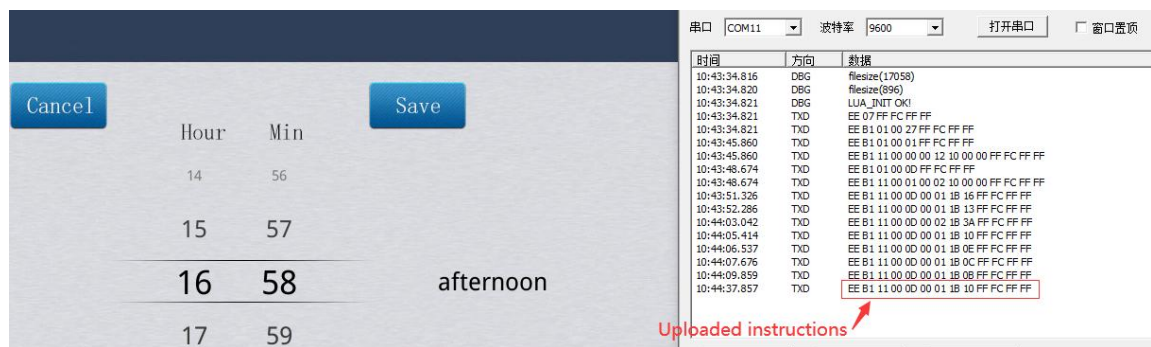

Figure 2-32 The swipe selection control uploads instruction data
4. Set the parameters at (4), (5), (6) and (7) in the Properties window.
5. Set candidate data at the Properties window (8): 0; 10; 20; 30; 40; 50; 60; 70; 80; 90 .
6. The operation is complete. Run the virtual serial port screen, when you slide up and down, you can see the command data uploaded on the screen, such as Figure 2-32 shows.